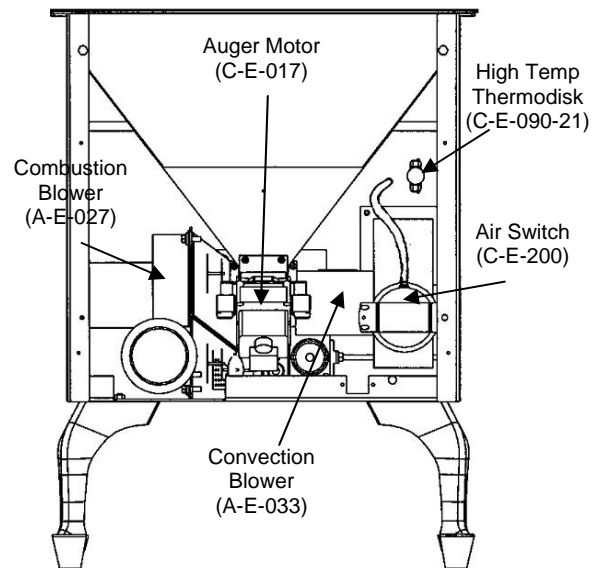

Figure 15
- B. Clean heat exchanger tubes (see “**CLEANING**” and Figure 15).